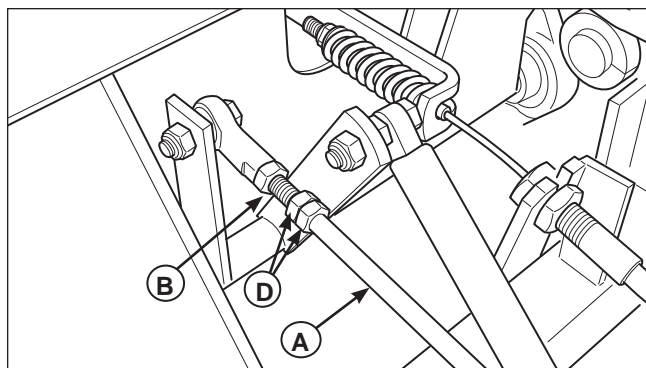

Figure 35. Neutral Adjustment (RH side shown)
2. The locking nuts (**D**, **Figure 35**) are to be used together to turn the rod. Loosen the jam nut that locks against the ball joint (**B**) and turn the linkage rod (**A**) to adjust: